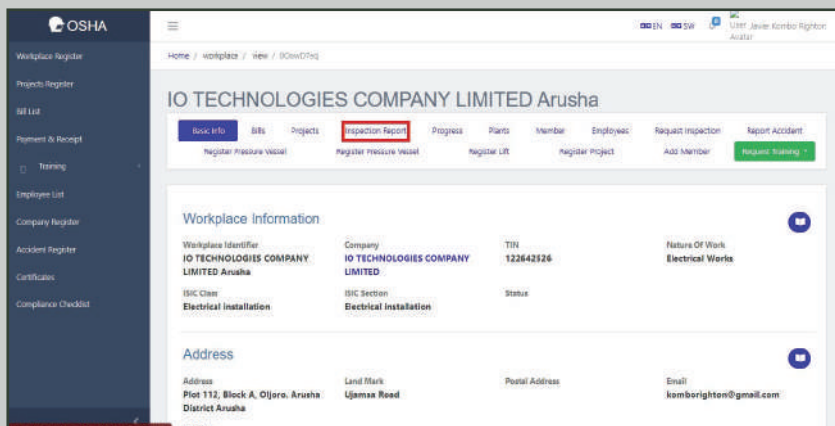

Figure 33: Accessing workplace inspection report page
- ii) System displays workplace details, as shown on Figure 33, including an option for Inspection reports. Click on Inspection Report Tab to view approved workplace inspection reports THEN click on report link to preview inspection report;